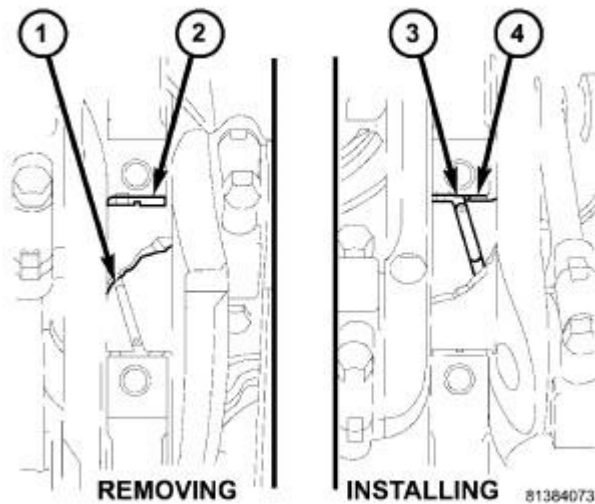

Fig. 311: Removing & Installing Upper Main Bearing With Special Tool C-3059
4. Remove bearing caps one at a time. Remove upper half of bearing by inserting Main Bearing Tool (special tool #C-3059A, Remover/Installer) into the oil hole of crankshaft. Refer to **Fig. 311**.